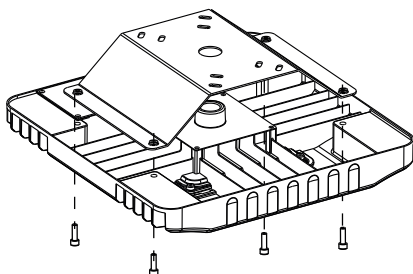

Figure 6
► Installation Method III (1):
1. Fix the mounting bracket on the back of fixture by supplied screws. (Figure 6)